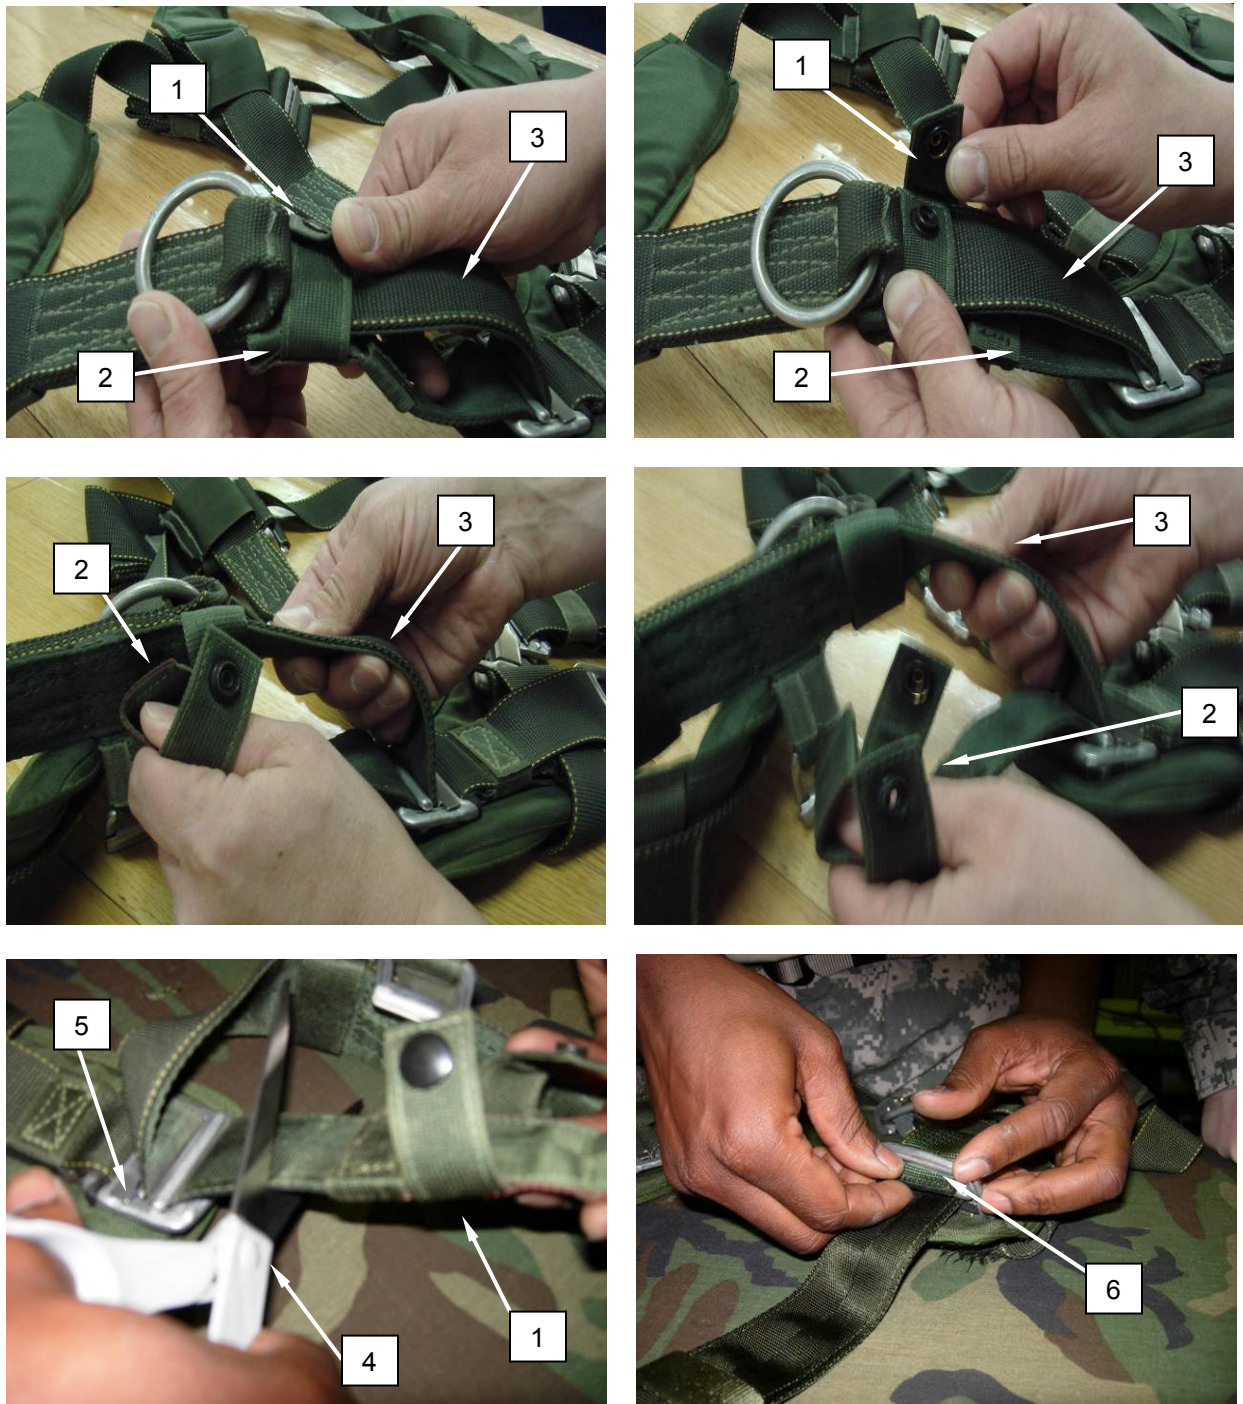

Figure 13. Replacing Harness Right and Left Upper Main Lift Web Assemblies.
3. Unsnap tuck tab snap fasteners (Figure 13, Item 1) on the tuck tab assemblies (Figure 13, Item 2) on the right and left upper main lift web (Figure 13, Item 3).
4. Using shears (Figure 13, Item 4), carefully cut both the right and left upper main lift web straps between the tuck tab snap fasteners (Figure 13, Item 1) and the main lift web adjusters (Figure 13, Item 5). Remove both main lift webs from the main lift web adjuster (Figure 13, Item 6).